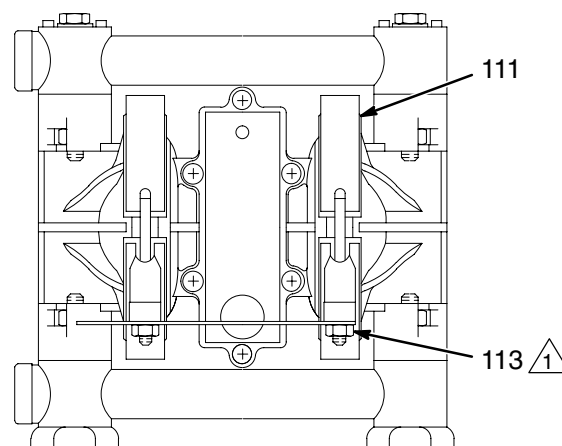

Fig. 7
When tightening the clamps (111), apply thread lubricant to the bolts and **be sure** to torque the nuts (113) to 5.6–6.8 N•m. See Fig. 7. See **Torque Sequence**, page 25.